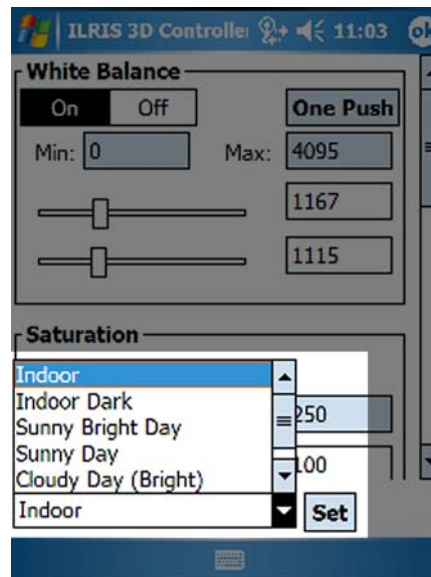

Figure 44: Adjusting lighting options
2. Use the drop-down arrow to select the lighting option that best describes the environmental conditions, and tap the **Set** button (Figure 44).